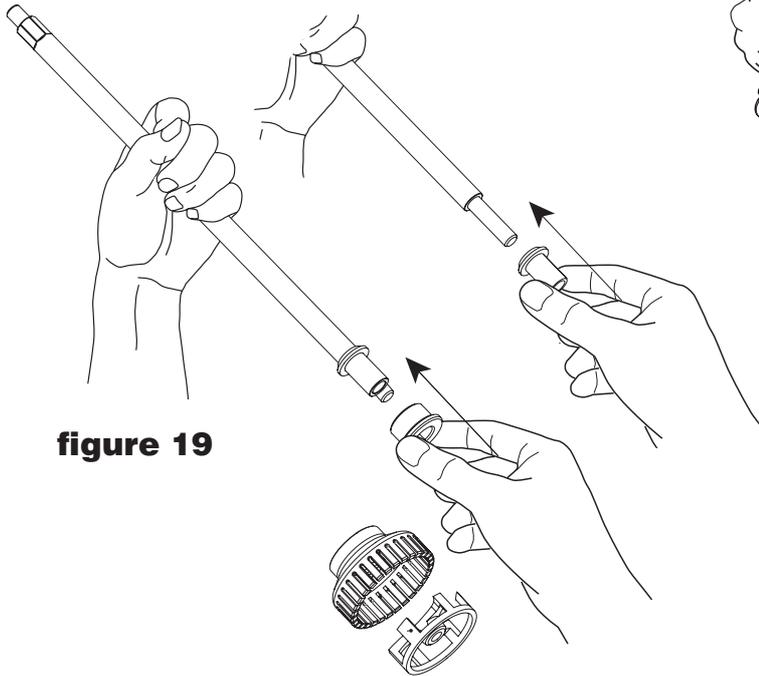

**figure 18**
**Always check the wear of the resin and metal bushings.** (Fig.18)